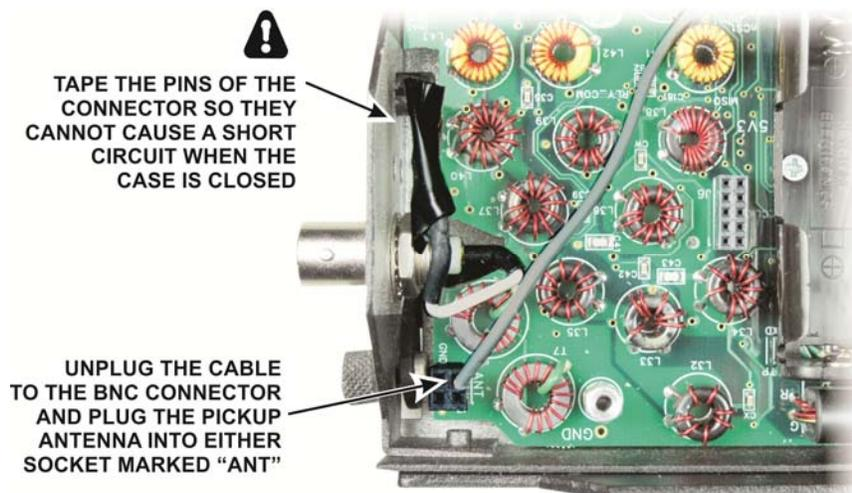
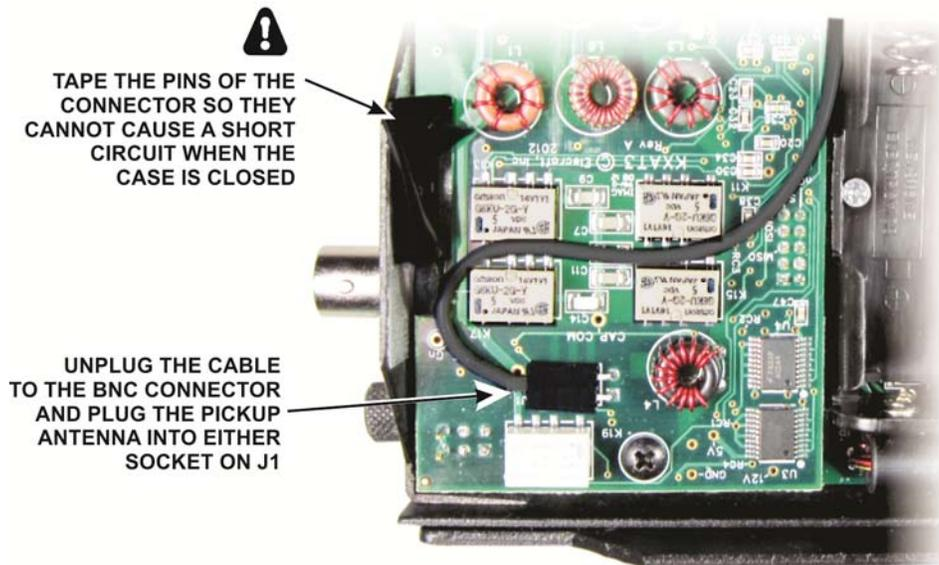

Figure 3. Connecting the Test Antenna to the KX3 Input - No KXAT3.
Figure 4. Connecting the Test Antenna to the KX3 Input – With KXAT3.
- Connect the loose end of the test antenna to the KX3 antenna input as shown in Figure 3 if no KXAT3 is installed or as shown in Figure 4 if a KXAT3 is installed.